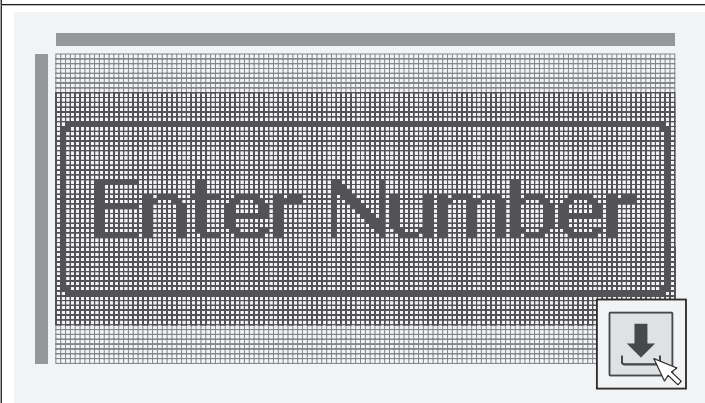

Fig. 92
3. Next click on the download icon and the default home (welcome) screen from the **Digital GSM** will be downloaded and appear in the main editing area, as shown in **Fig.92**.